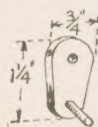

Fig. 8—Winding handle
loosely between the sides (K) of the turntable so freedom of movement is allowed in winding. On the outside and against the side (K) a 3/16 in. washer is glued to the spindle, and then again to this is glued the crank and handle, Fig. 8, which is cut from 3/16 in. stuff.